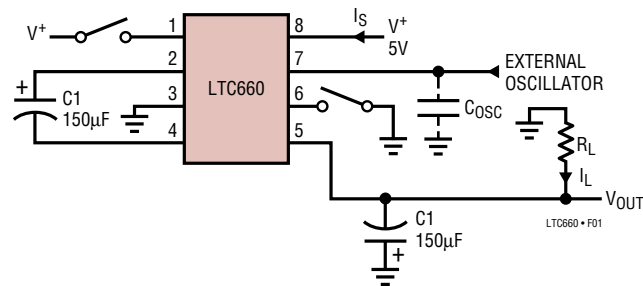

Figure 1. Test Circuit
# TYPICAL PERFORMANCE CHARACTERISTICS (Using Test Circuit in Figure 1)
**TYPICAL PERFORMANCE CHARACTERISTICS** (Using Test Circuit in Figure 1)